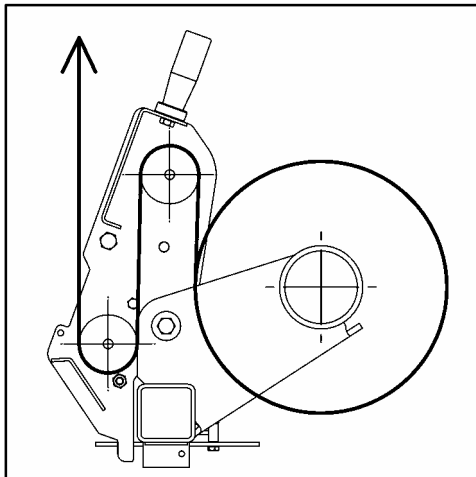

fig.16 – Film passage
- 1- Move the rolls away from the support reel pushing the lever (A). At the end of the stroke the rolls will be coupled up on the stop (B).
- 2- Push the upper plug (C) towards the top till hooking release.
- 3- Charge the reel leaning it on the lower plug (D) first, then aligning it with the upper plug (C).
- 4- Pull the rope (E) to couple up the upper plug (C).
- 5- Pass the film around the rolls as indicated on fig. 16.